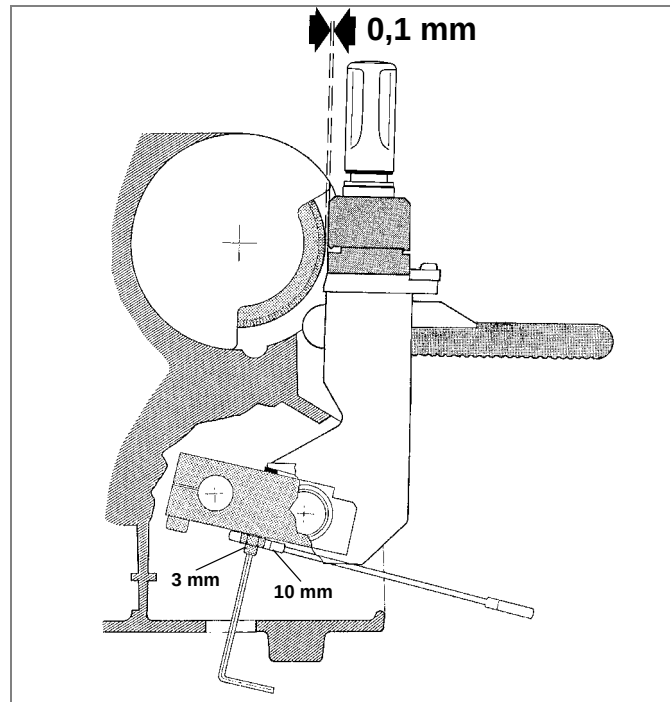

Fig. 31
- 2) Release the carriage and raise (against the cutting tool) at the end of run (fig.31).